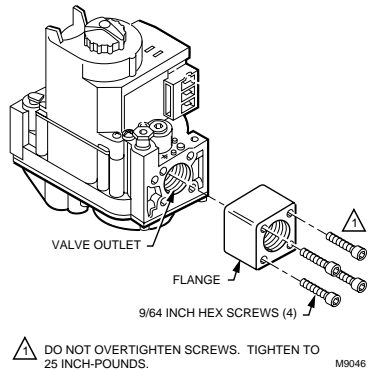

Fig. 2. Firmly fasten flange to valve, but do not overtighten screws.
4. With the O-ring facing the gas control, align the screw holes on the control with the holes in the flange. Insert and tighten the screws provided with the flange. See Fig. 2. Tighten the screws to 25 inch-pounds of torque to provide a gas-tight seal.